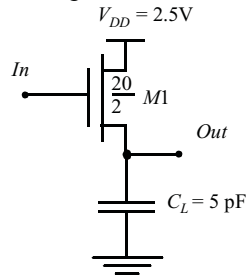

Figure 5.6 Circuit diagram with annotated W/L ratios
8. [M, None, 3.3.3] An NMOS transistor is used to charge a large capacitor, as shown in Figure 5.6.